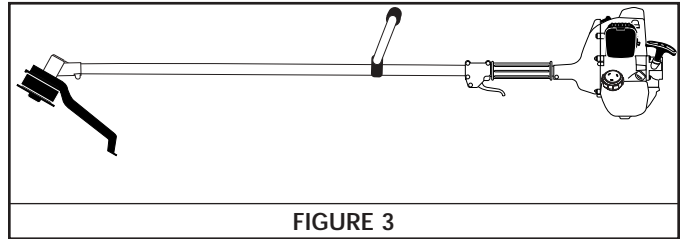

FIGURE 3
1. Place the unit on a flat level surface. See Figure 3. It is crucial to keep the unit level when filling with oil.